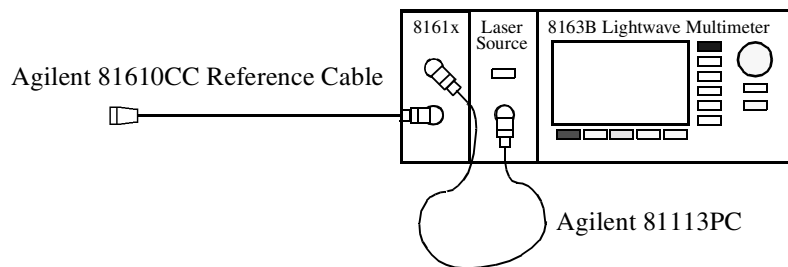

Figure 95 Measuring the Return Loss of the Reference Cable - External Source
- 1 Making sure all the connectors are clean, set up the instrument as shown in Figure 95 if you are using an External Source,